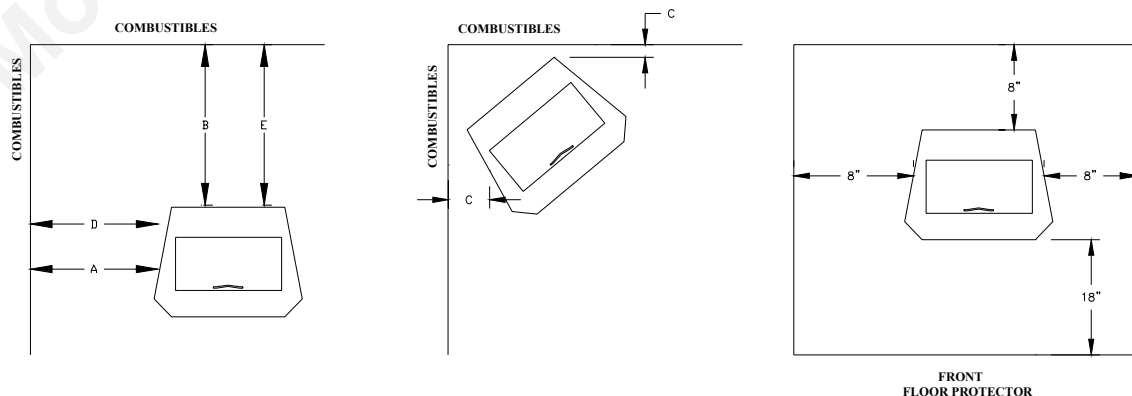
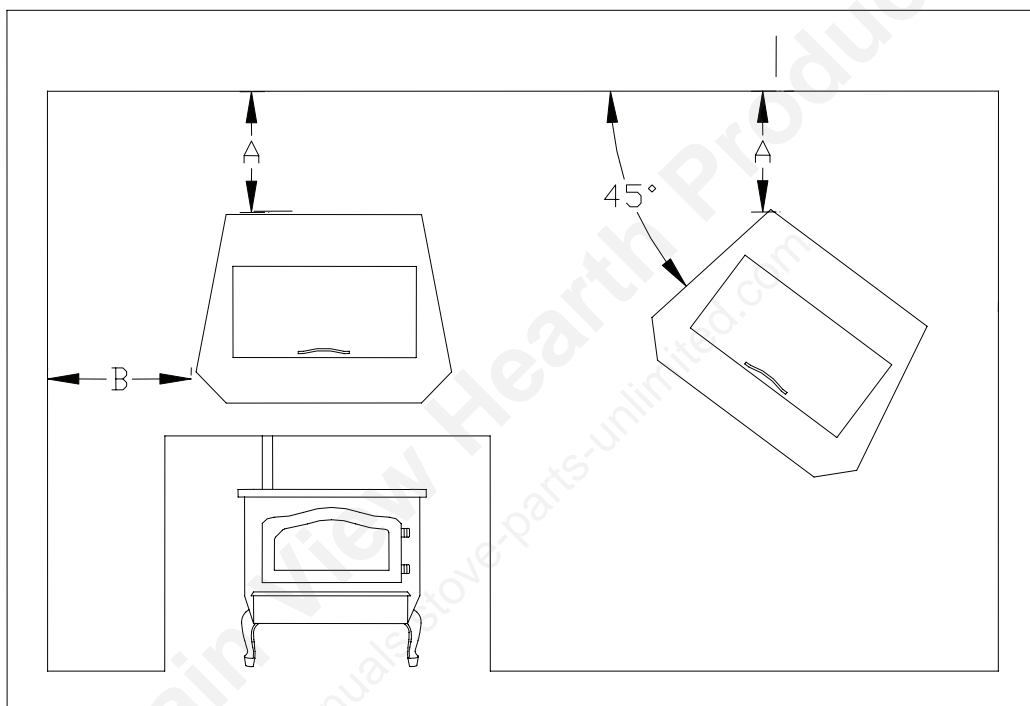

FIGURE 10: FREESTANDING CLEARANCE REQUIREMENTS
FIGURE 11: ALCOVE CLEARANCES
The Harvester minimum clearances must be maintained during installation. Failure to maintain proper clearances can create a hazardous environment that will lead to a house fire or endanger the occupants. A stove that is installed correctly and maintained properly will minimize operating costs. Country Flame recommends the use of a Hearth Industry Professional that is certified to install pellet-burning products. Check with the local dealer or contact Country Flame if there is any question about the installation, the installer, or the product being installed. Maintain the clearances shown in FIGURE 10. Follow the chimney manufacturer's installation instructions when installing the chimney system. Inevitably there will be differences between the chimney manufacturer and Country Flame's stove clearances. Always utilize the largest clearance listed. Contact Country Flame or one of its local authorized dealers to resolve any questions.
1. All Country Flame freestanding Harvester stoves require a listed floor protector that is noncombustible. Country Flame Harvester stoves were tested with a listed floor protection that had an R-value equal to or greater than 1.5. Ensure that any floor protection equals or exceeds $R = 1.5$ or greater. Refer to FIGURE 10 for floor protector clearance requirements.
- ii. k-factor is given with required thickness (T) in inches: $R = (1/k) \times T$.
WARNING: A FREESTANDING HARVESTER STOVE MUST HAVE ITS LEGS OR PEDESTAL PERMANENTLY BOLTED TO THE FLOOR OF THE MOBILE HOME. FIGURE 10 shows a leg option installation and FIGURE 11 shows a pedestal option installation.